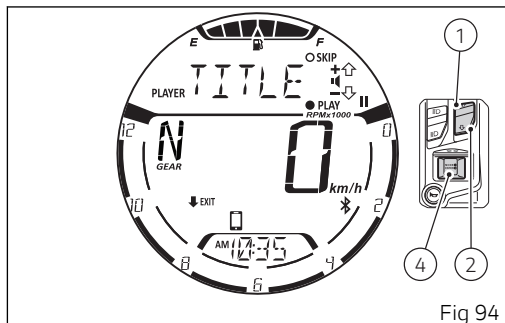

Fig 94
It is hence possible to access again to the music player control and button (1), button (2) and button (4) are used again by the instrument panel only for the music player controls (Fig 94).